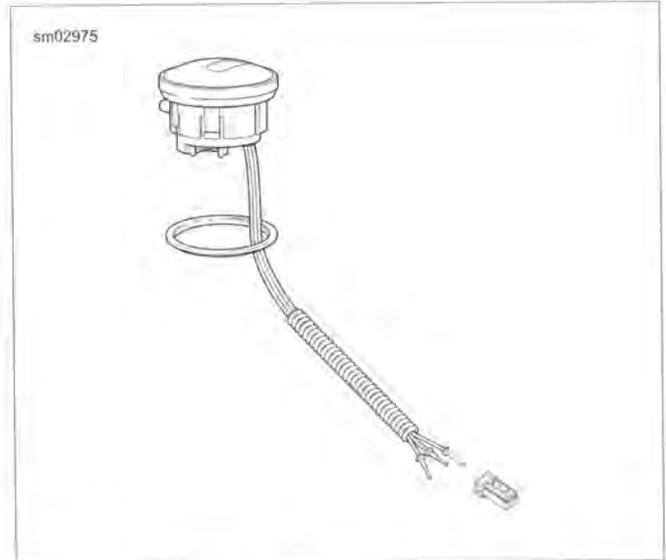

Figure 7-80. Fuel Gauge (FLHR/C)
5. See Figure 7-80. Install terminals into connector housing. See A.21 TYCO 070 MULTILOCK UNSEALED CONNECTOR.